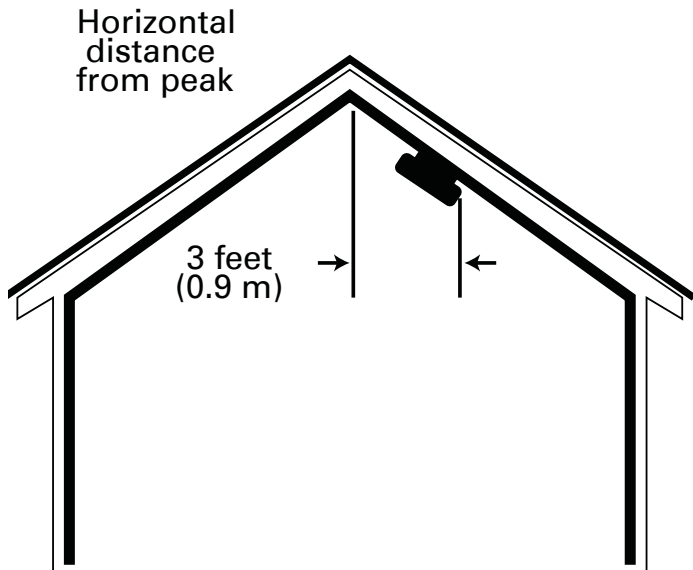

Figure 2: Recommended smoke detector location in rooms with sloped, gabled, or peaked ceilings.
- In rooms with sloped, peaked, or gabled ceilings, mount detectors within 3 feet (0.9 meters) measured horizontally from the highest point of the ceiling. See figure 2.